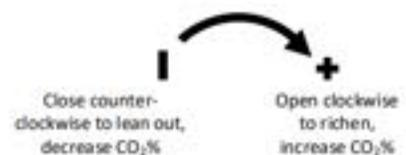

Figure 1 High-fire gas/air ratio adjustment
1. Use a Torx 15 bit and turn the high-fire gas/air ratio screw clockwise to the *fully open position*, in the direction of the (+) sign (see Figure 1).